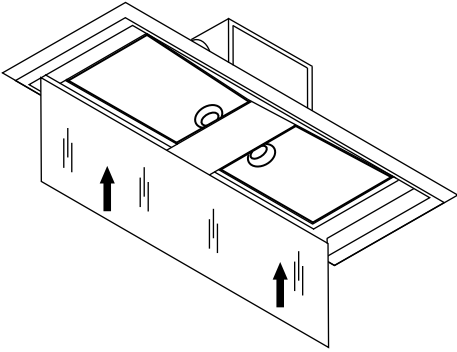

Fig 8
4. Re-insert the grease filters into the hood (Fig 8).